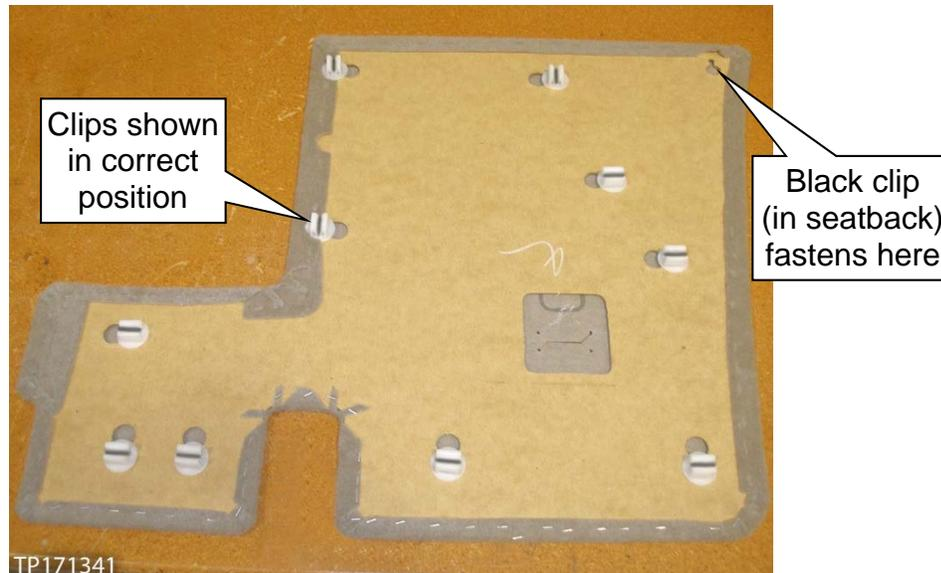

Figure 51
- Before installing, position all seat back luggage board clips as shown in Figure 51.